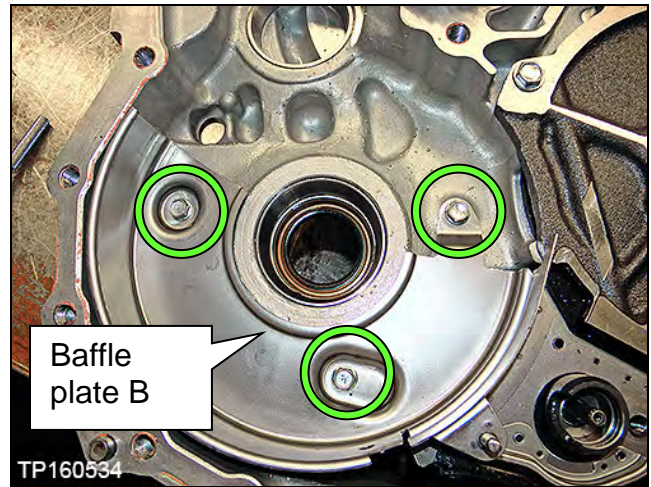

Figure 17C
- Remove the three bolts from baffle plate B, and then remove baffle plate B (Figure 17C).